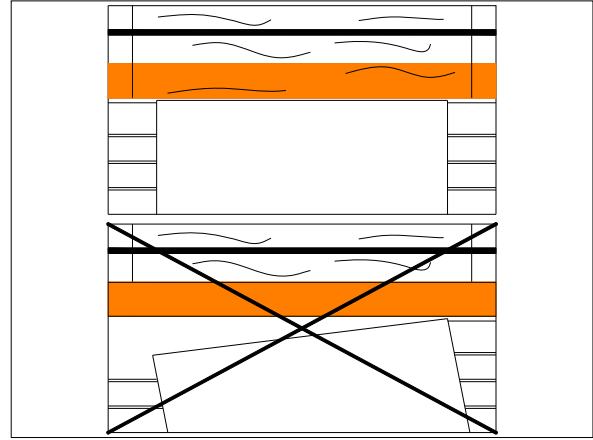

FIGURE 27
9. Align the leading edge of the item parallel to the heat roller nip (Fig. 27).